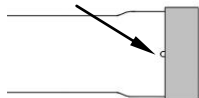

FIGURE 3
10. Place the supplied 27-61msc clamp onto the lower muffler inlet then slide the rear headpipe / muffler assembly onto the front headpipe and into the rear exhaust port. Bolt rear headpipe onto the rear cylinder using the stock nuts from Step 5 but **DO NOT TIGHTEN**. See Figure 3 for clamp orientation.
12. Make sure the front headpipe is inserted properly into the rear assembly. Tighten the following in order; exhaust mount to the transmission case, then the flange nuts securing the exhaust flanges (slowly tighten opposing nuts), followed by the muffler to the exhaust mount. Tighten the 27-61msc clamp last. (NOTE: If the muffler clamp is slid past the slots on the muffler inlet the clamp will not tighten properly). See Figure 3.
14. To install the front heatshield, first slide the rear portion of the heatshield over the muffler, continue to slowly slide it forward pushing the front of the shield gently into place between the frame and motor (Hint: Spread the hose clamps apart slightly to make it easier to slide them over the muffler assembly and headpipes). Make sure the muffler clamp doesn't interfere with the heatshields and is aligned as shown in Figure 3. Snug the heatshield clamps but **DO NOT TIGHTEN**.